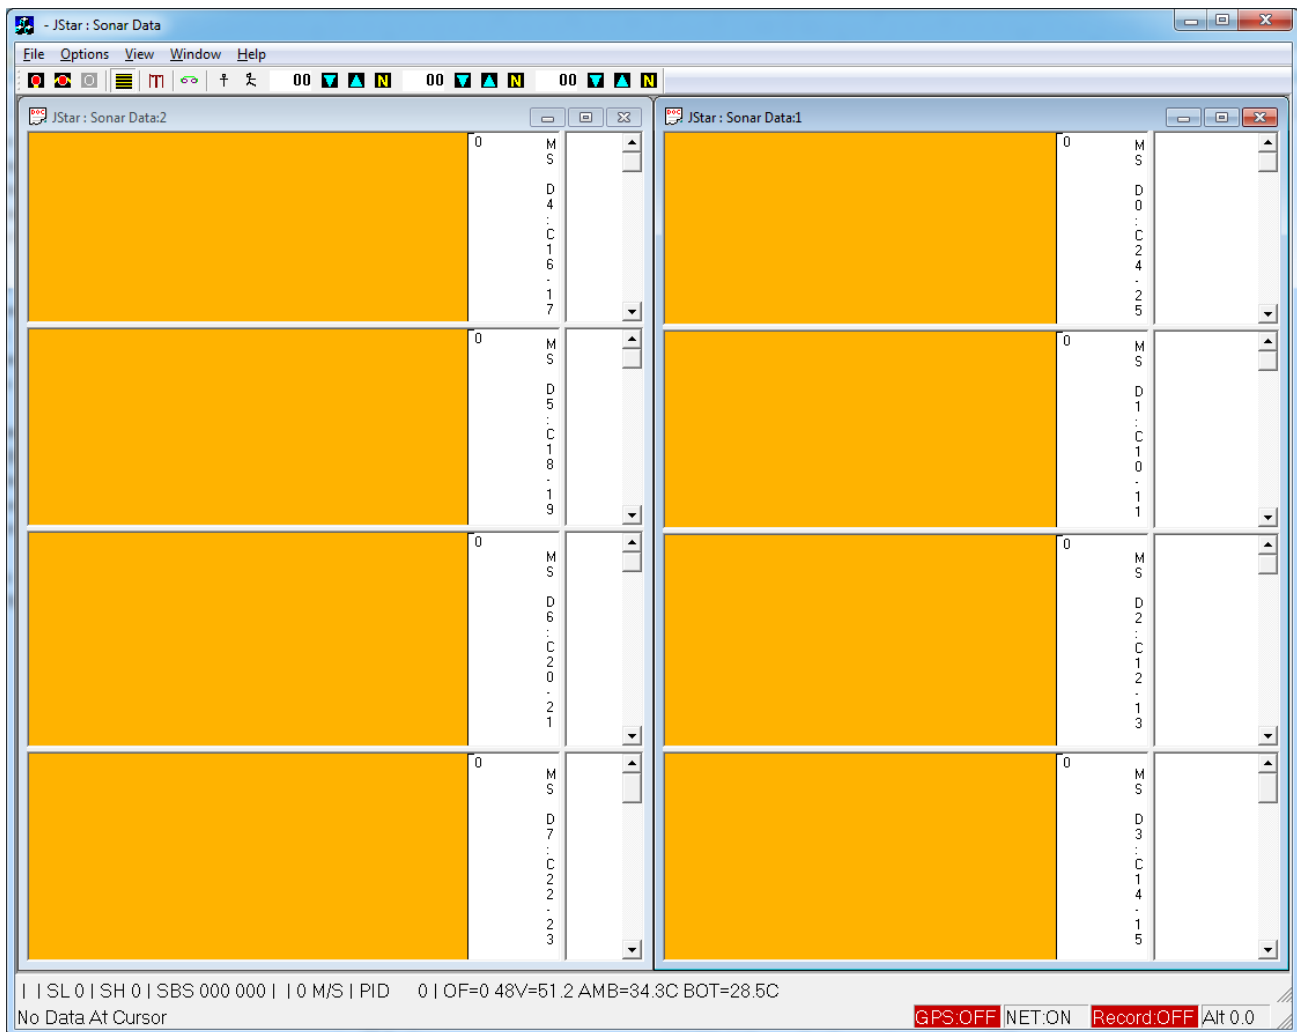

Fig. 14 - JSTAR Startup Window
4. Launch JSTAR using the shortcut on the Desktop, or alternatively, navigate to C:\EdgeTech\JSTAR4600 and launch the JSTAR Application. The main window will appear with 8 cells (Fig. 14). These cells correspond to each coupled port and starboard channels.
Note: If the window that appears does not resemble Fig. 14, please load the configuration file by **File > Load Configuration > JStar_4600_Rub Test.jni**.